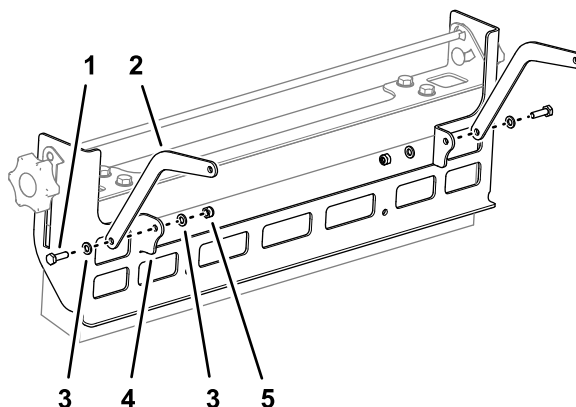

Figure 4
1. Align the hole in the brush strut with the hole on the tab of the brush mount as shown in Figure 4.
2. Secure the brush strut to the brush mount (Figure 4) with a capscrew (6 x 20 mm), 2 washers (6 mm), and a locknut (6 mm).